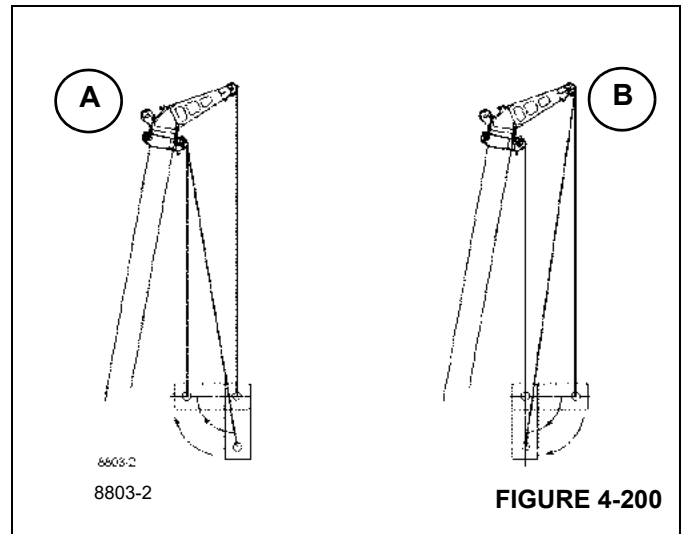
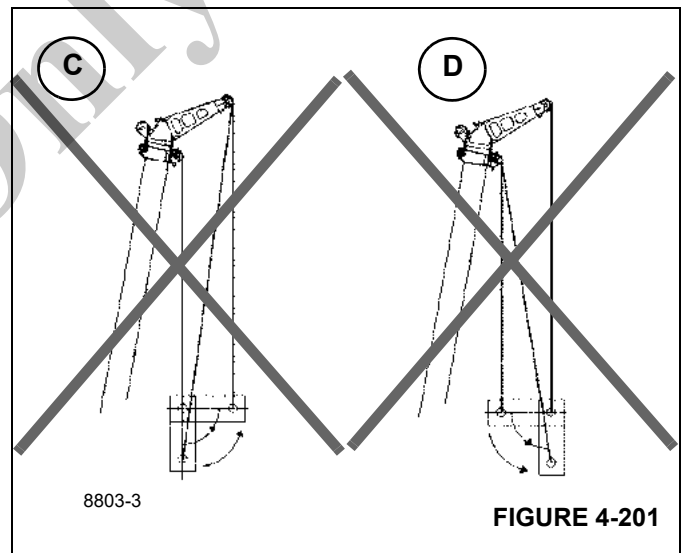

FIGURE 4-200
FIGURE 4-201
The load's center of gravity must move towards the crane ((Figure 4-200), A & B). Any other use is considered non-intended use and is prohibited. For examples see (Figure 4-201), C & D.
If you proceed in accordance with Detail C / Detail D, (Figure 4-201), the load will swing outward and the load torque will increase. This work method can cause the machine to tip or the boom system to become overloaded and is therefore strictly prohibited!
- Lift the load horizontally using the two hoists (Detail B), (Figure 4-200).